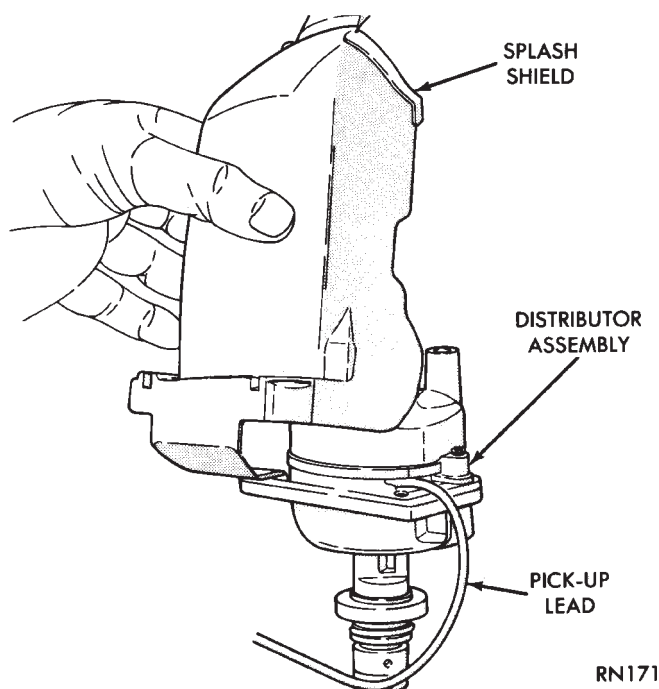

Fig. 15 Splash Shield—2.5L Engine
- (2) Remove splash shield retaining screws (Fig. 15).
- (3) Remove splash shield (Fig. 15).